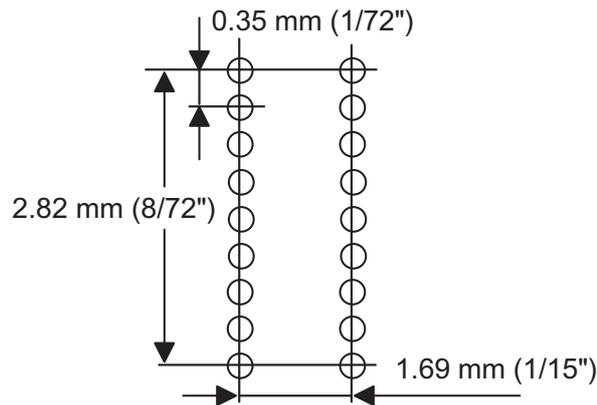

Figure 1-2. Printhead Pin Configuration
- Number of pins : 18-pin (Refer to Figure 1-2.)